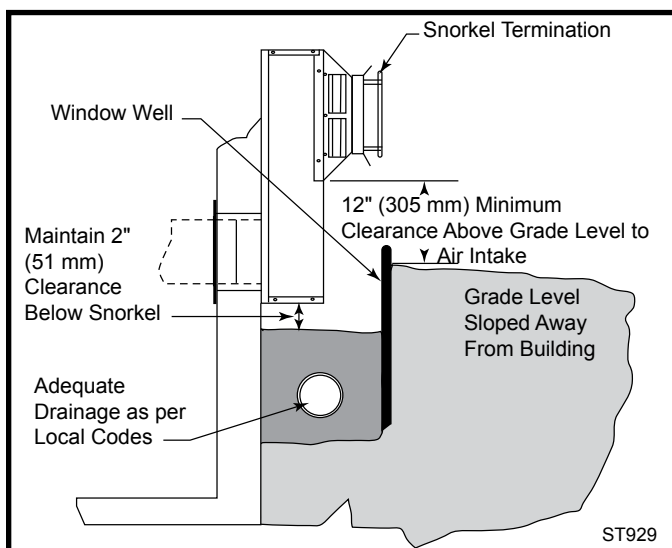

Fig. 40 Below grade installation.
1. Determine the appliance location. Refer to the appliance manufacturer's installation instructions for clearance to combustible requirements, termination options, number of elbows, maximum length, etc. Then position the appliance and plan vent routing accordingly. Consider locating the appliance in a place where there will be no interference with wall studs, electrical wiring, conduit, plumbing pipe or other obstructions. The termination should be located at least 12" (305 mm) (Fig. 40) above grade, remain above the snow line in geographical areas that accumulate snow and be away from traffic areas such as walkways if it is
7. If a wall thimble is used, push the pipe (which is connected to the appliance) carefully through the wall thimble until the DIRECT-TEMP pipe becomes fully engaged with the horizontal termination. If no thimble is used, place the Trim Plate (TP) on the DIRECT-TEMP pipe. Carefully push the DIRECT-TEMP pipe through the wall until fully engaged with the horizontal termination. Secure the trim plate to the wall.
NOTE: If a vertical rise is necessary on the exterior side of the building, a 14" (356 mm) and 36" (914 mm) Snorkel Termination (ST) is available. Follow the installation procedures for horizontal terminations. If the snorkel termination is to be located below grade, a window well is recommended with adequate and proper drainage as per local codes. Leave 2" (51 mm) clearance below snorkel to prevent water from entering the snorkel termination. Do not enclose the snorkel within a wall or other type of enclosure and **do not back fill**. Ensure that grade level slopes away from the building. (Fig. 40)